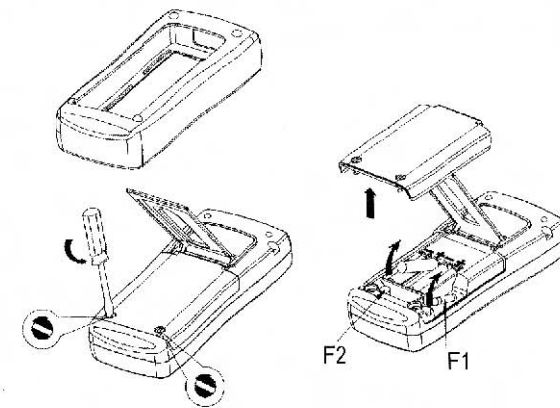

Figure 22 Replacing batteries and fuses
Step 2: Remove the protector as shown in Figure 22. With a standard blade hand screwdriver, turn each battery door screw a quarter counterclockwise to remove the battery door.